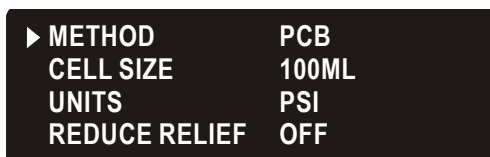

Figure 3-13. Setup Screen
2. Move the cursor to **SETUP** and press **ENTER**. The **SETUP** screen appears (see Figure 3-13).
The Dionex ASE 150 determines various internal operating parameters (for example, the rinse volume) based on the cell size selected on the **SETUP** screen (see Figure 3-13). If the selected cell size does not match the size of the cell in use, select the correct size: